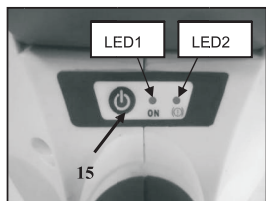
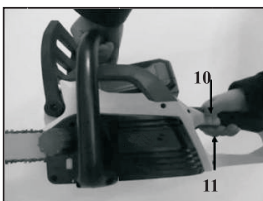

Fig.11A
Fig.11B
With the battery fully installed, press the power button (15) when "ON" turn on green light and press safety button (10) on the rear handle and also press switch trigger (11). (Fig.11A/ Fig.11B)